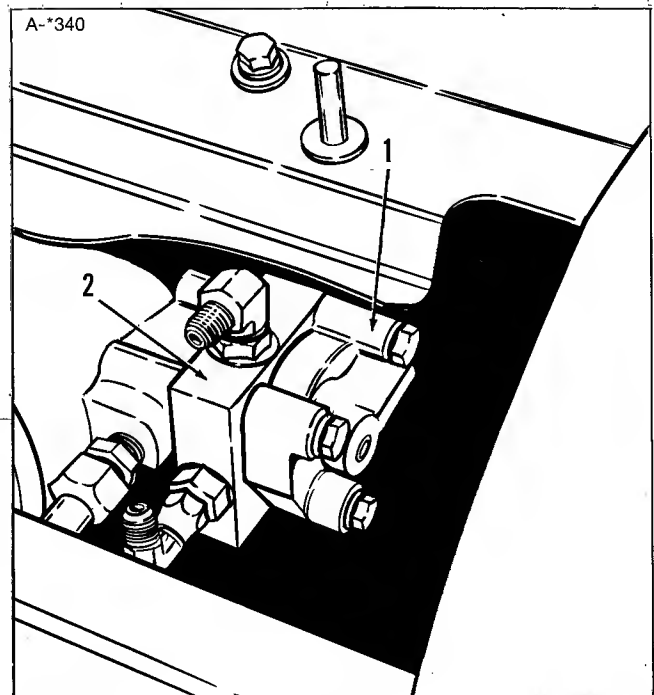

Figure 3.
4. If manifold (2, figure 3) (Kit #2097211) is not installed, install now as follows.
- a. Remove the transmission cap (1, figure 3) by removing three screws.
- d. Place flat side (without O-rings) of the manifold (2, figure 3) against the transmission. Place the cap (1) over the manifold and install with supplied M8 x 1-1/4 x 70 mm screws and lockwashers. Torque to 11 ft. lbs.